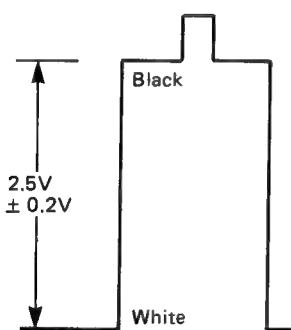

Fig. 21
- 5) Adjust Sub Contrast control VR (R1103) to achieve $2.5V \pm 0.2V$ on the oscilloscope as shown in Fig. 21.